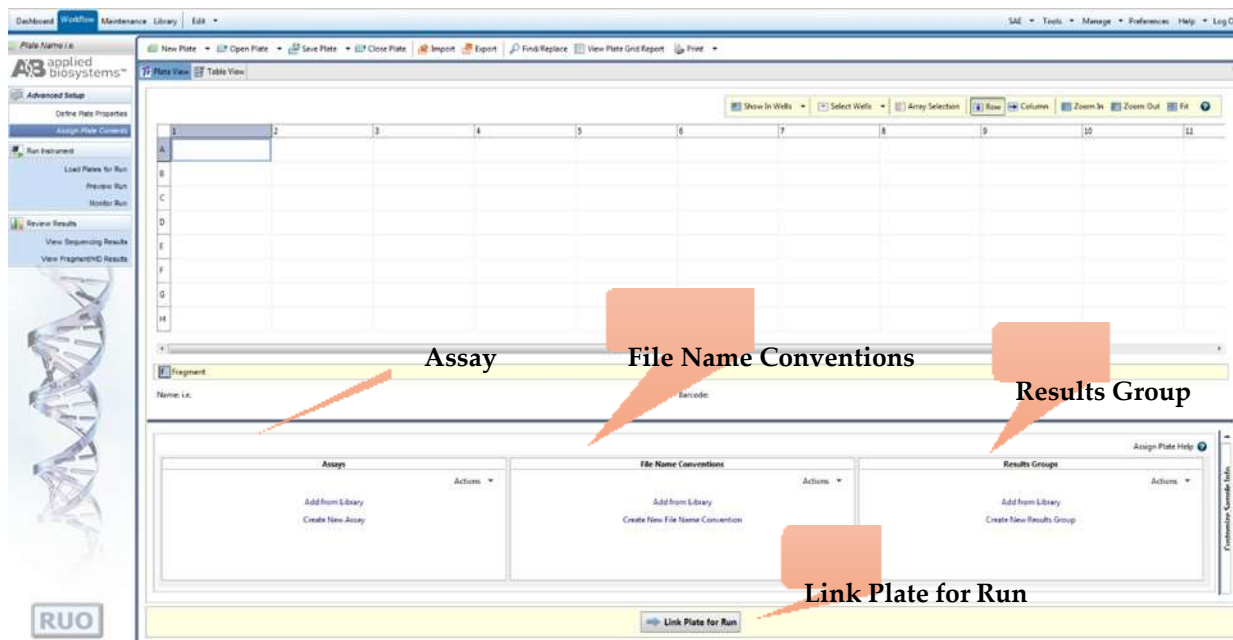

Figure 11. Screenshot for the “Assign Plate Contents” window on Applied Biosystems 3500 Data Collection software
- In the *Assign Plate Window* (Figure 11), in the bottom left corner, in a box “Assay”, click *Add from Library* option to select the *Assay* created in Step 3.1.4. Click on the *Add to Plate* button and close the window.